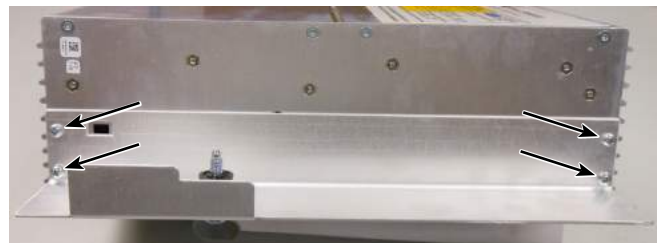

Figure 35. Removal of latch bracket from CL-7 control
3. Using a screwdriver, remove the four screws to uninstall the existing latch bracket from the left side of the CL-7 control; retain the screws. See Figure 35.